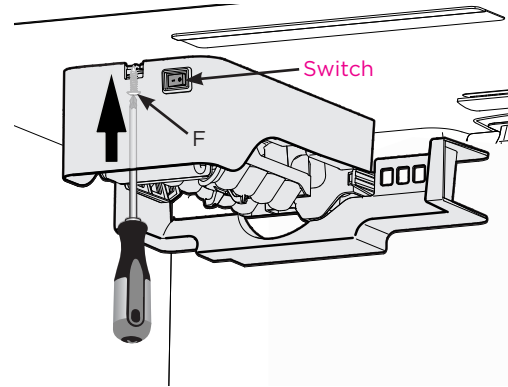

Figure 3
7. Insert and tighten screw (F) in outermost hole on bracket to fasten it to the upper side of freezer wall. (See Figure 3).